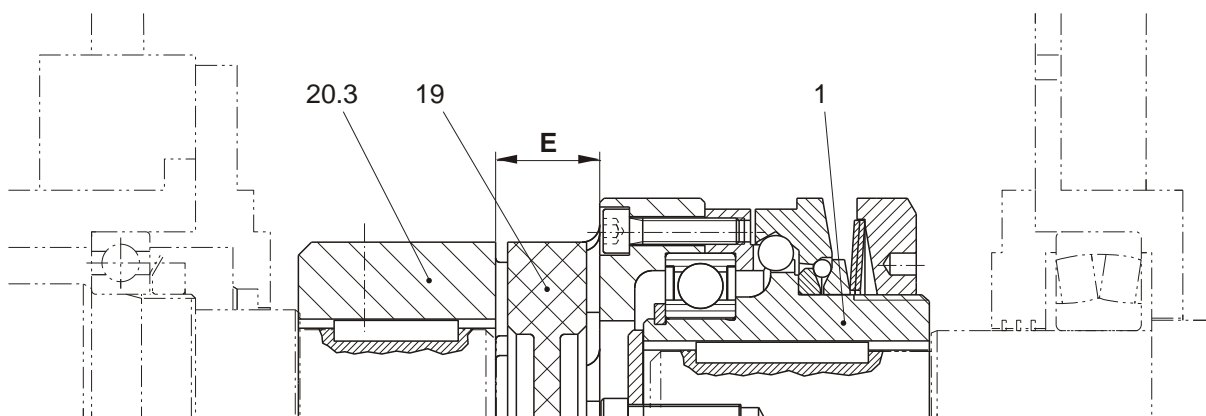

Fig. 7
**Keep to distance dimension "E" acc. Fig. 7 and Table 10!**